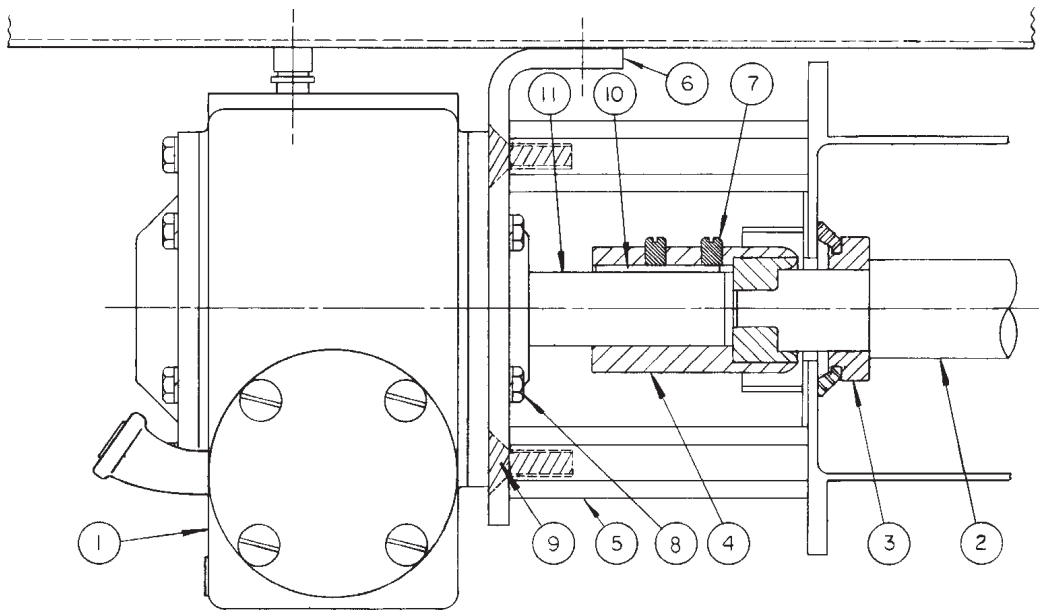

Figure 11-2
2. Remove dispensing head and beater shaft. (See figure 11-2 Ref.#2.)